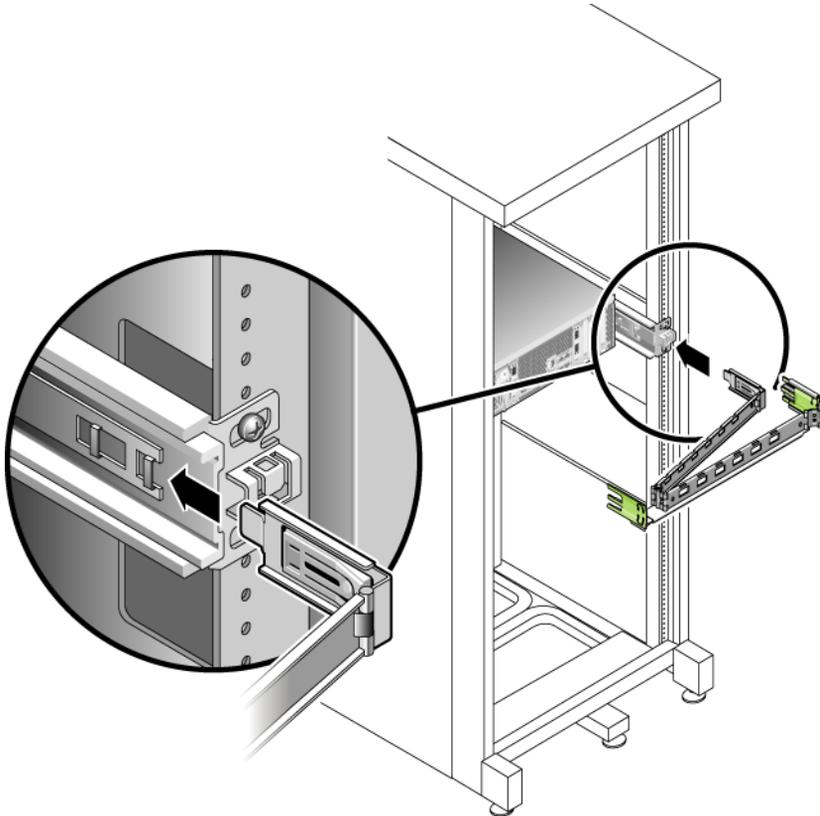

FIGURE 2-20 Mounting the Inner CMA Connector
2. Insert the smaller extension into the clip located at the end of the mounting bracket (FIGURE 2-20).